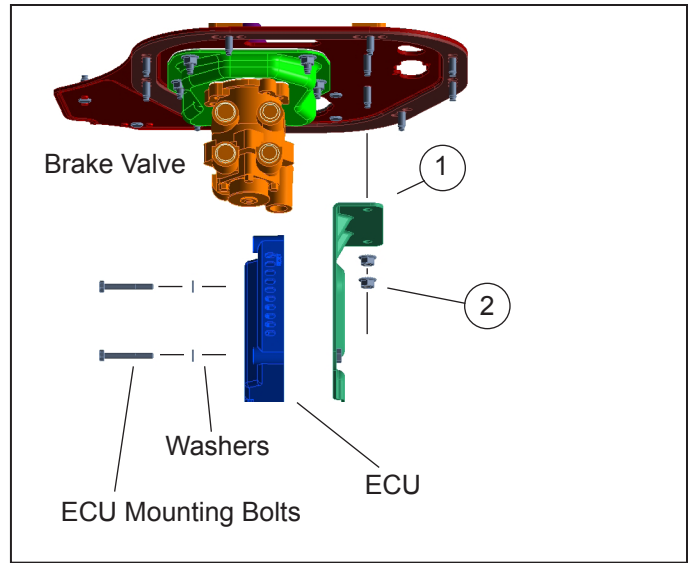

Figure 2 – (Type A) Bracket with ECU
- Type A - Bracket with an ECU (See Figure 2.)